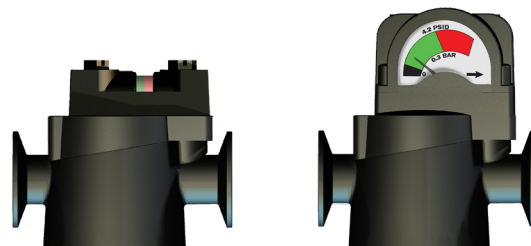

Figure 3.3
1. Pressure differential in excess of 4.3 psid (0.3 bar) - pressure indicator in red area - indicates that the filter element should be replaced. Reference page 8, Figure 3.3 for gauge scale detail.